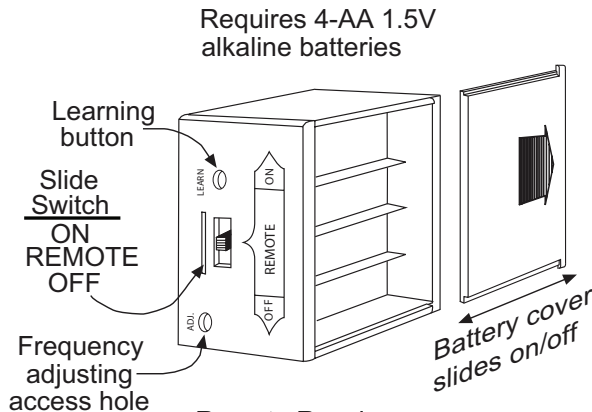

Figure 20 - Attaching Batteries to Receiver
2. Locate the battery cover on the back of the receiver (see Figure 20).